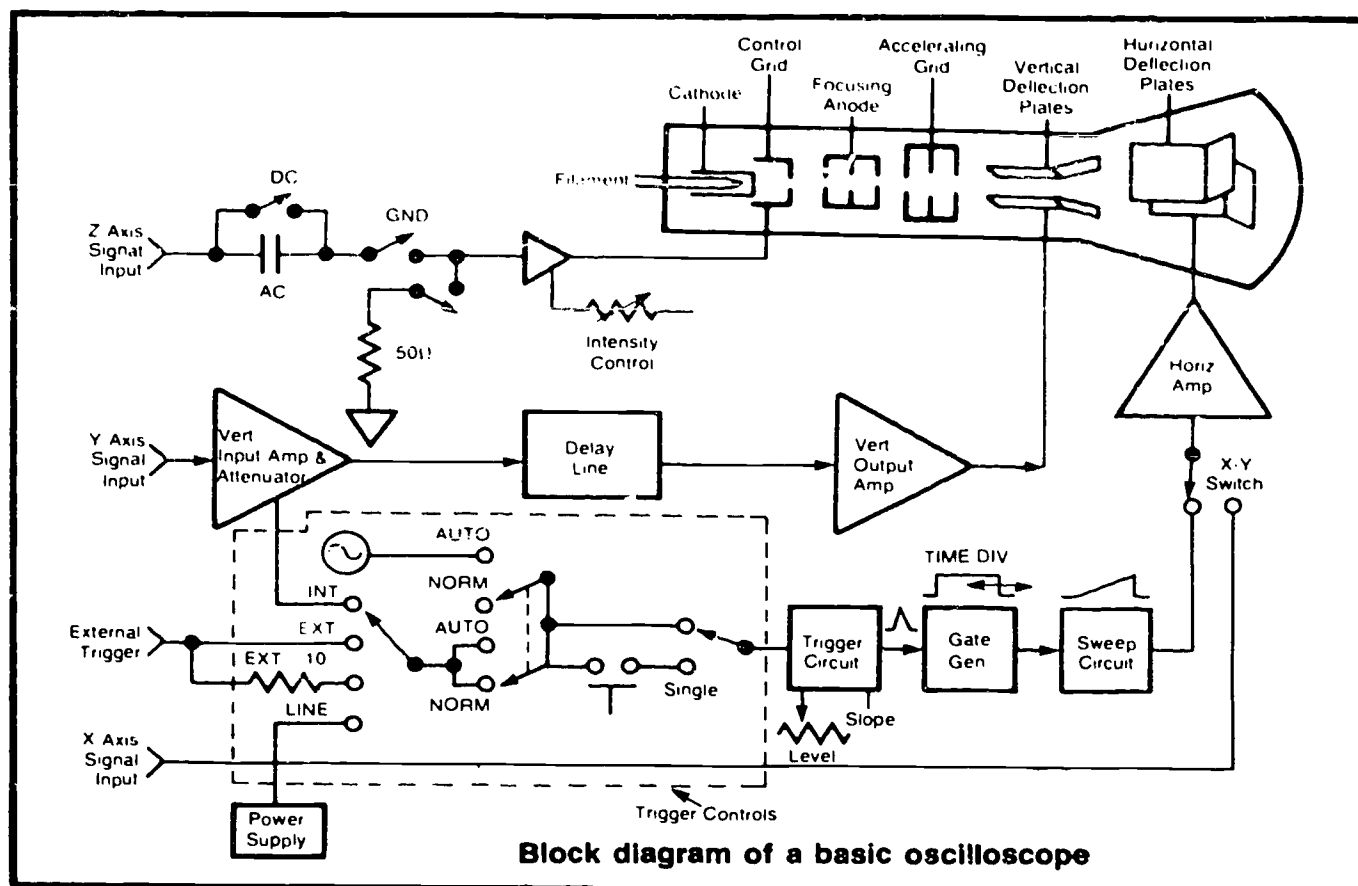

Figure 1-1.
This screen presents three types of information: (1) voltage information on vertical or Y axis, (2) time information on the horizontal or X axis, and (3) intensity information on the Z axis. All oscilloscopes have controls to adjust the voltage, time, and intensity information in order to present a meaningful picture on the CRT. Figure 1-1 shows a block diagram of the basic circuits that these controls operate.
The vertical input. As shown in figure 1-1, the input signal is connected to the vertical input amplifier. The vertical amplifier either attenuates or amplifies the signal for convenient viewing.
Several controls allow you to select the source, positive or negative mode, and level of the synchronizing trigger signal as shown in the simplified diagram (fig. 1-1). The following table is an abbreviated description of the basic controls and their functions.
NORMAL mode. The NORMAL mode requires a trigger signal from one of the three sources (internal external, or line) in order to generate a reference baseline or sweep. The “pilot error” mentioned earlier usually occurs when you have set the scope up for internal triggering and the mode switch is in the normal position. If you don’t have a signal connected to the vertical input of the scope, you won’t have a trigger signal — hence no trace. This loss of trace with loss of input can be a valuable troubleshooting aid. Say, for example, you are probing a circuit looking only for the presence or absence of a signal. If you adjust the trigger level control for an optimum level, and then probe a point in the circuit that has no signal present, there will be nothing to trigger the display and the screen will be blank. Figure 1-1 shows a simplified representation of how the trigger controls are interlocked.
Internal trigger. When the switch is set for internal triggering, it means that a portion of the input signal is tapped off, as shown in figure 1-1, and sent to the trigger circuit. The CRT will display a *portion* of the